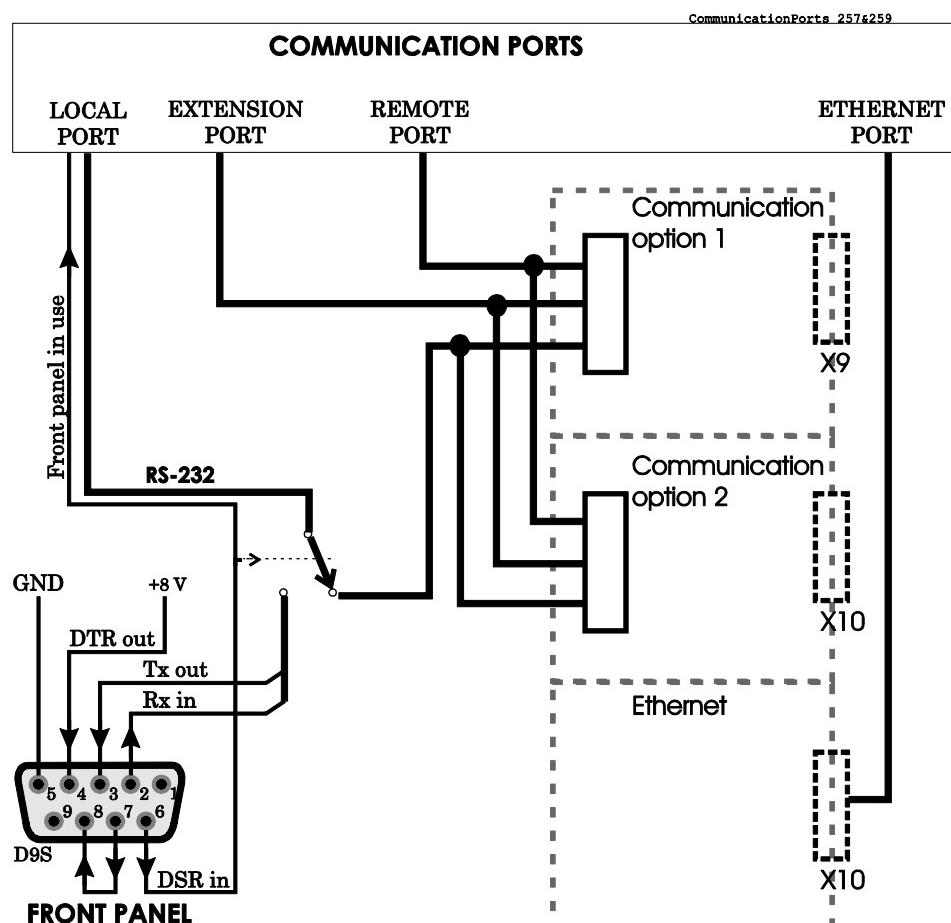

Figure 6.1-1. Communication ports and connectors. The type of connectors X9 or X10 depends on the type of the communication option (see chapter 8).
A fourth port, Ethernet, is available as an option. When this option is chosen, it will take over communication option 2 slot. There can be up to three communication ports in the rear panel. The front panel RS-232 port will shut off the local port on the rear panel when a VX003 cable is inserted. See Figure 6.1-1 and chapter 8.
**NOTE!** When the VX003 cable is inserted to the front panel connector it activates the front panel port and disables the rear panel local port by connecting the DTR pin 6 and DSR pin 4 together. See Figure 6.1-1.
The physical interface of this port depends of the communication letter in the order code. See Figure 6.1-1, chapter 8, chapter 12 and the table below. The TTL interface is for external converters and converter cables only. It is not suitable for direct connection to distances more than one meter.
This is a RS-485 port for external I/O devices. The physical interface of this port depends on the type of communication modules. The port is located in the rear panel connector X9 or X10. See Figure 6.1-1 and chapter 8.